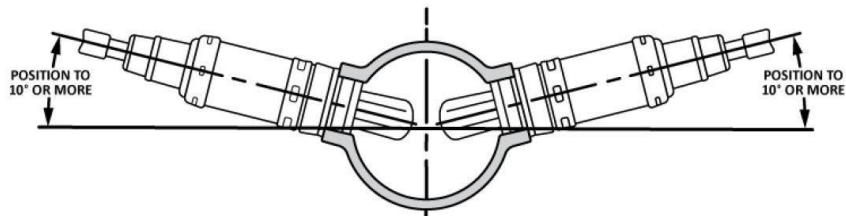

Figure 2
2. Ensure the location for the sensor is at the angle in **Figure 2**. This will help prevent condensation in the exhaust tubing from entering the sensor. The sensor can be mounted on either side of the tubing.
- Locate a place in the exhaust to drill a 3/4" hole. Make sure to allow enough clearance for an O2 sensor and wiring harness. It is important to keep the O2 bung (**Item 2a**) at least 12 inches from open exhaust. Ensure the location for the sensor is at an angle (**Figure 2**). This will help prevent condensation in the exhaust tubing from entering the sensor. The sensor can be mounted on either side of the tubing.
- Mark the center of the casting on the exhaust tube and drill a 3/4" hole. Deburr the hole after drilling (**Figure 2**).